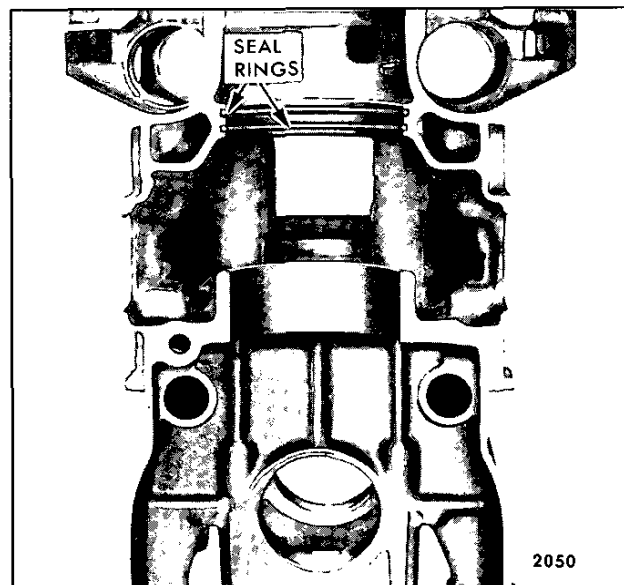

Fig. 9 – Cylinder Liner Seal Ring Location in Cylinder Block Bore
1. Make sure the seal ring grooves in the cylinder block bore are clean. Then, install two new seal rings (Fig. 9).